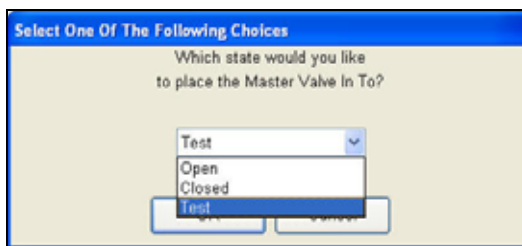

Figure 7.1.4
4. With the station running, select the **Master Valve** key. Click on the **DOWN** arrow and select Test. Click **OK** (Figure 7.1.4).